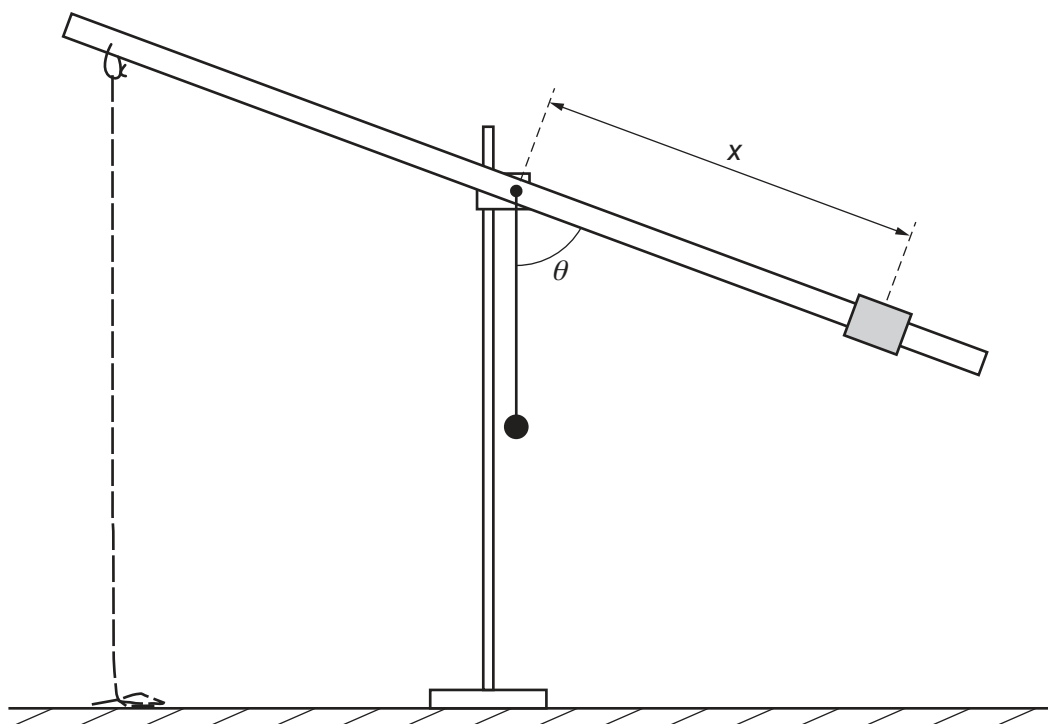

Figure 1.2
- Increase the distance between the nail and the slider by approximately 5 cm. Wait for the metre rule to settle into its new equilibrium position, as shown in Figure 1.2.
The angle between the plumb line and the metre rule is  $\theta$ , as shown in Figure 1.2.